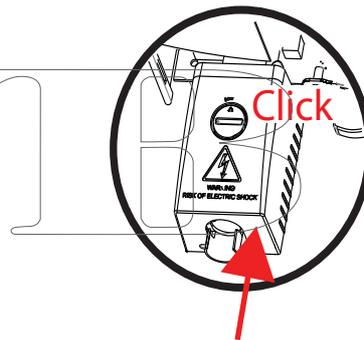

Figure 5-5: Close the AC connection module
- 5 Close the AC connection compartment by clicking the cover in place, see figure 5-5.